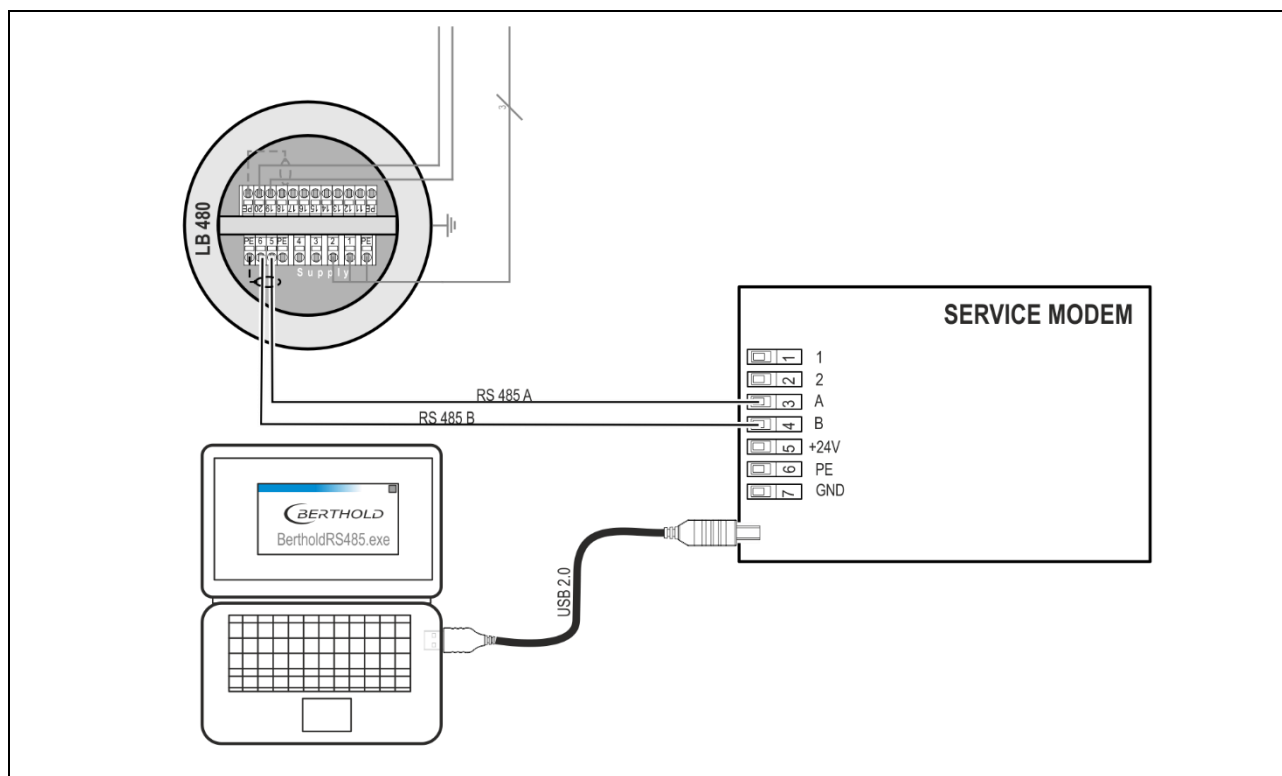

Fig. 1 Connection diagram Detector – Service modem – PC
7. Connect the detector to the service modem via this RS485 interface, see connection diagram Fig. 1 and the table below. The power supply of the detector must not be interrupted during the software update.